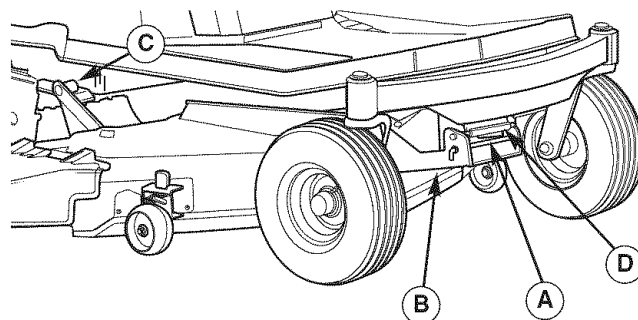

Figure 11. Mower Hitch Components
3. Slide the mower deck under the right side of the rider. Slide the mower backwards making sure that the rear mower supports (C, Figure 11) slide up the ramps on the frame. The rear of the mower is supported by these frame ramps.
4. Hang the mower hitch (B, Figure 11) on the rider hitch bracket (D) and secure with the hitch rod and clip (A).